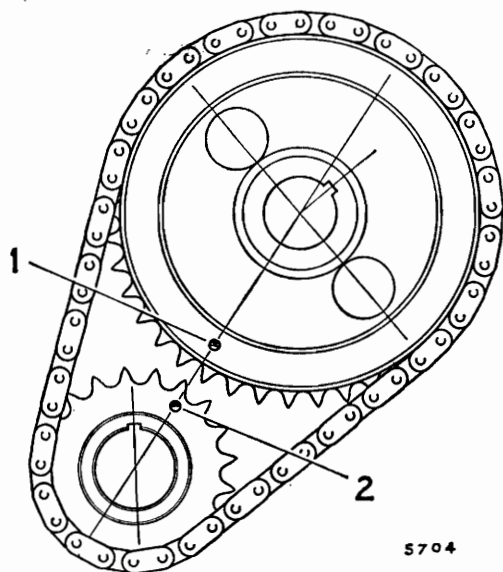

Fig. A.13
- (6) Place the crankshaft gear packing washers in position and turn the shaft to bring the key to the top.
- (7) Bring the camshaft keyway to the position shown in Fig. A.13 (approx. 1 o'clock).
- (8) Assemble the two wheels in the chain with the marks opposite each other as in Fig. A.13. Push the wheels onto the shafts, turning the camshaft slightly as required to line up the key. Push the wheels as far as they will go and secure the camshaft gear with the lock washer and nut.
- (9) Check the alignment of the wheels by placing a straight-edge across the teeth of the camshaft and crankshaft gears and measuring the gap between the straight-edge and the crankshaft gear. Adjust with washers behind the crankshaft gear as required.
- (10) Refer to Section A.15 'Refitting', items (5) to (11).